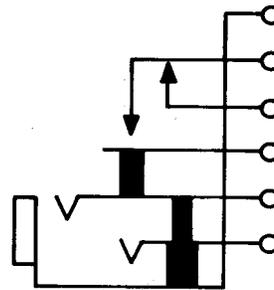

Fig. 14—387-Type Jack
2.14 **387A, C, and D:** These single mounted jacks (Fig. 14) are used with the 310 or similar-type plugs. These jacks are heavily insulated and are intended to be mounted with the springs in a vertical plane.